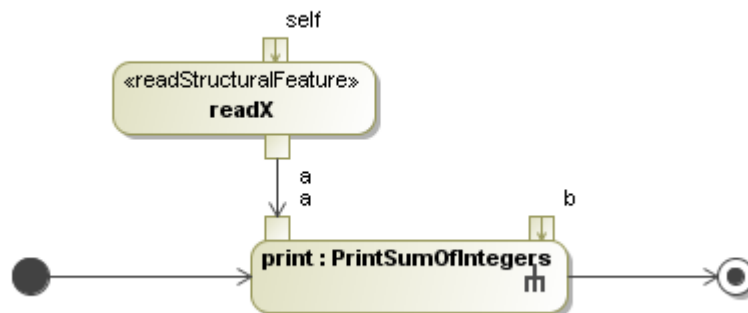

Figure 66 -- Activity Diagram Showing the Flow between **readX** and **print** Actions
13. Connect pin **a** of the **readX** action to pin **a** of the **print** action (Figure 66).